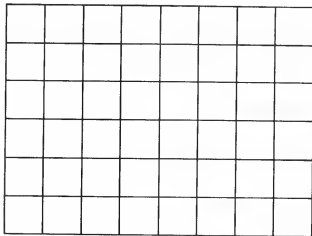

Figure 4-87
4. Adjust your oscilloscope to display a waveform at a frequency of approximately 3 kHz. Connect the oscilloscope across the tank circuit and adjust for a stable pattern. Sketch the waveform on the graph of Figure 4-87.